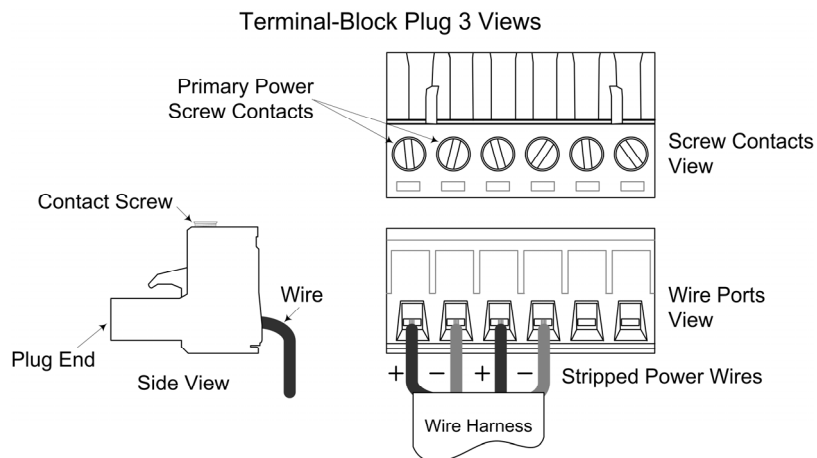

Figure 7: Six-Contact-Terminal-Block Plug (Primary/Redundant Power Wiring)
3.	Insert one stripped power wire into the terminal-block plug, Observe polarity. See Figure 7.
4.	Secure the wire using a flathead screwdriver by tightening the contact screw. See Figure 7.